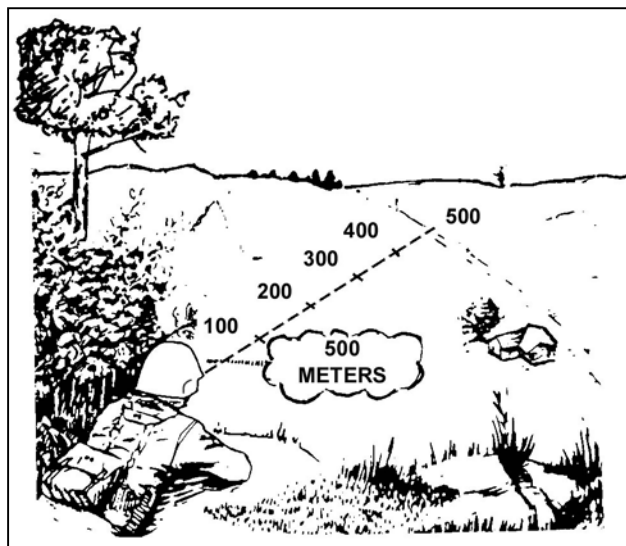
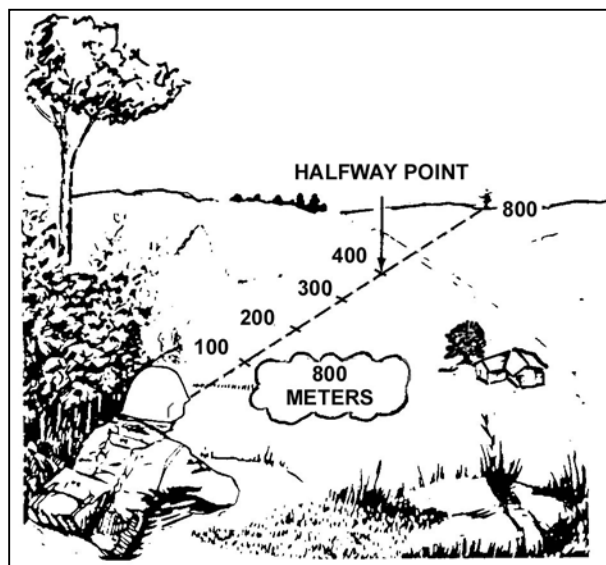

Figure 5-26. Applying the 100-meter-unit-of-measure method for ranges up to 500 meters.
Figure 5-27. Applying the 100-meter-unit-of-measure method for ranges up to 800 meters.
(2) *100-Meter-Unit-of-Measure Method*. To use this method, the gunner visualizes a distance of 100-meters on the ground. For ranges up to 500-meters (Figure 5-26), he determines the number of 100-meter increments between the two points he wishes to measure. Beyond 500-meters (Figure 5-27), he selects a point halfway to the target, determines the number of 100-meter increments to the halfway point, and then doubles it to find the range to the target.